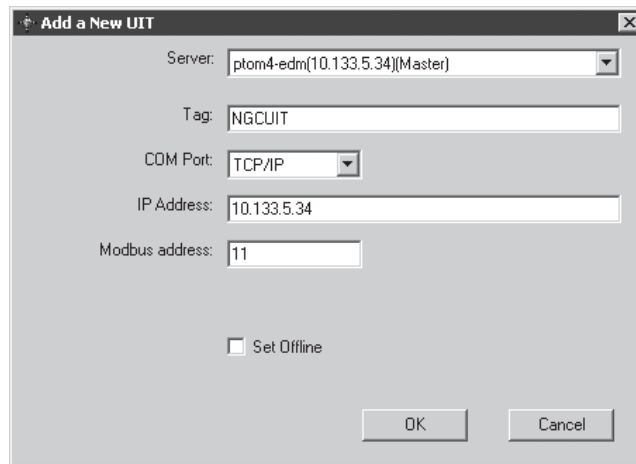

Figure 1-3 Add a new NGC-UIT
2. Fill in the Tag, COM Port, IP Address, and Modbus Address field. In the Modbus Address field, you must enter an address of 11. This address is fixed in the Simulator as the identifier for an NGC-UIT (see Figure 1-3). Remember to use the IP Address obtained from the Simulator main screen as the IP Address (see Section 1.3 above).